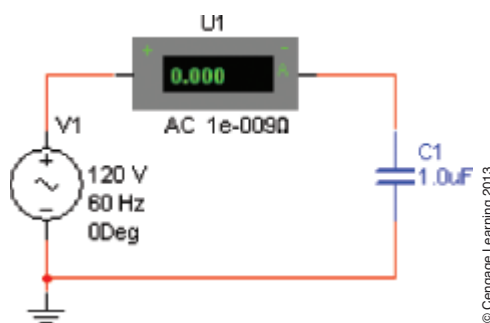

FIGURE 16–58 The source to use here is the power voltage source.
37. Create the circuit of Figure 16–58 on your screen. (To access the power ac source, right-click *View* and ensure that *Power Source Components* is selected. Use your mouse to locate its icon on your screen, click and the source attaches to your pointer. Move it to your workspace screen and click to place. To locate the ammeter, click *View* and ensure that *Measurement Components* is selected. Use your mouse to locate its icon and place it on your screen.) Double-click the ammeter symbol and set Mode to AC. Click the ON/OFF power switch to energize the circuit. Compare the measured reading against the theoretical value.
38. Multisim can be used to plot capacitive reactance versus frequency. Create the Multisim equivalent of the PSpice circuit of Figure 16–46. Click *Simulate, Analyses, AC Analysis*, set *FSTART* to **10 Hz** and *FSTOP* to **1 kHz**. Set *Sweep type* as *Decade* and *Vertical scale* as *Linear*. Click *Output*, create the expression $V(1)/I(C1)$, then click *Simulate*. You should get a magnitude graph similar to Figure 16–46 on your screen.
39. Create the circuit of Figure 16–53 on your screen. Use a source of $100\text{ V}\angle 0^\circ$, $L = 0.2\text{ H}$, and $f = 50\text{ Hz}$. Solve for current $\mathbf{I}_L$ (magnitude and angle). See note below.
40. Plot the reactance of a 2.387-H inductor versus frequency from 1 Hz to 500 Hz and compare to Figure 16–29. Use a linear X-axis scale.